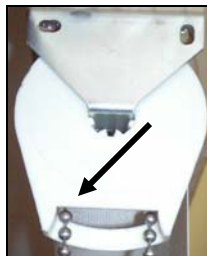

Figure 12 Top Front Bead
- Grasp the bead that is at the top front of the clutch (Figure 12), pull it down, and attach the bead stop at that bead. On a plastic chain, simply snap the bead stop onto the chain (Figure 13). For a metal chain, crimp the stop onto the chain with grooved pliers (Figure 14).